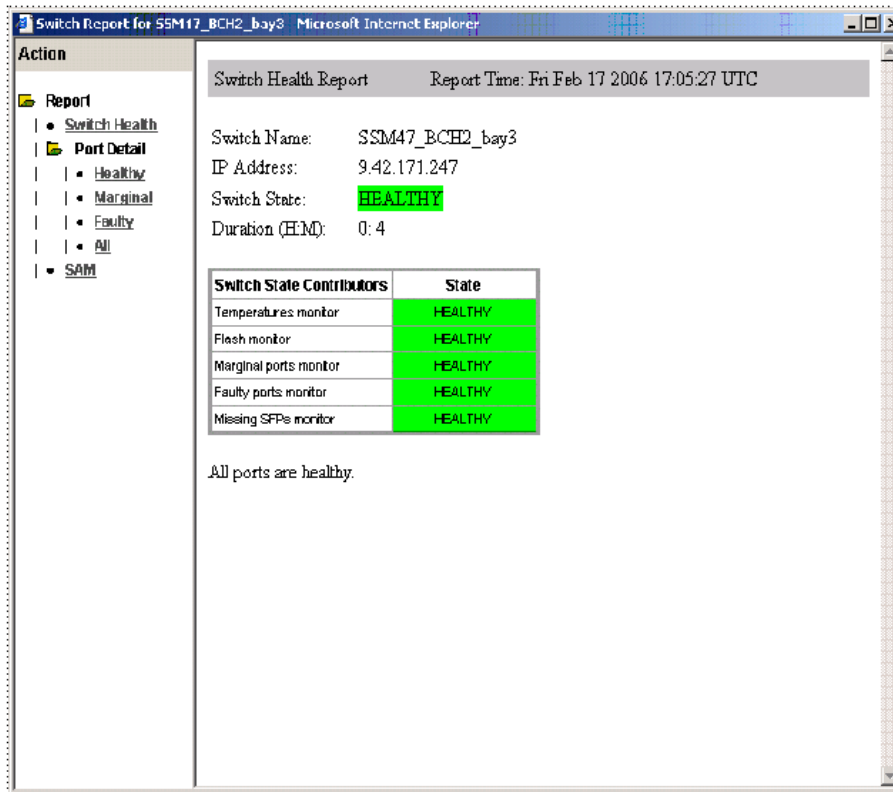

Figure 5-7 Switch Module Status Window
4. From the Switch View Button Menu, click **Status** and verify that the switch module health is good (see Figure 5-7 on page 59).